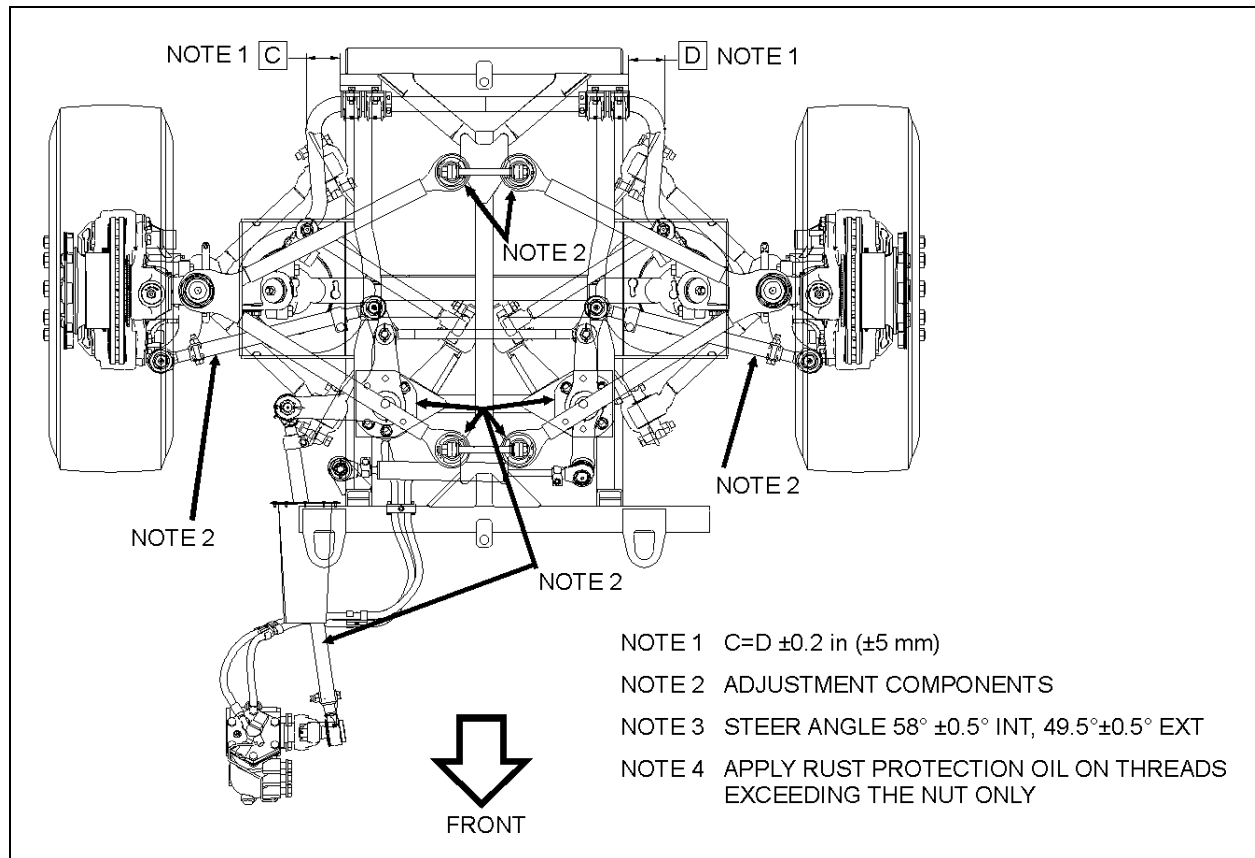

FIGURE 26: NOTE 2 INDICATES WHERE ADJUSTMENT MAY BE PERFORMED WHEN PROCEEDING TO IFS ALIGNMENT
- Using a pipe wrench, turn the tie rod tubes to obtain the toe-in measurement specified in step 5 under paragraph "Toe-in Check" (figure 26).
Caster variations may be caused by bent upper suspension A-arm, lower suspension A-arm, or kingpin housing. Caster should be adjusted with shims. Precision instruments should be used to measure caster. Shim bell crank and idler arm to adjust caster (figure 26).
See figure 26 & 27.